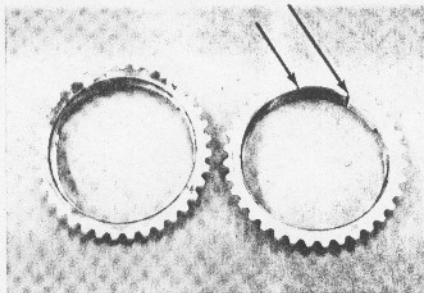

Figure 20 — Blocker ring comparison showing wiping grooves or slot modifications.
The blocker ring thread flats should be .002" - .004" wide which can be checked with an optical scale. All burrs should be removed from the blocking ring chamfers. Add six (6) wiping grooves or slots to inside of diameter of blocker ring using a jewelers file. (Figure 20, page 4-11)